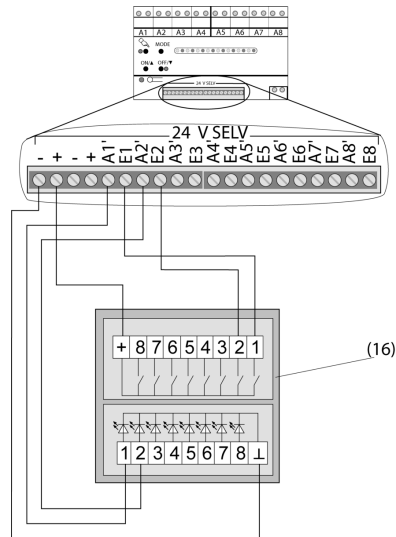
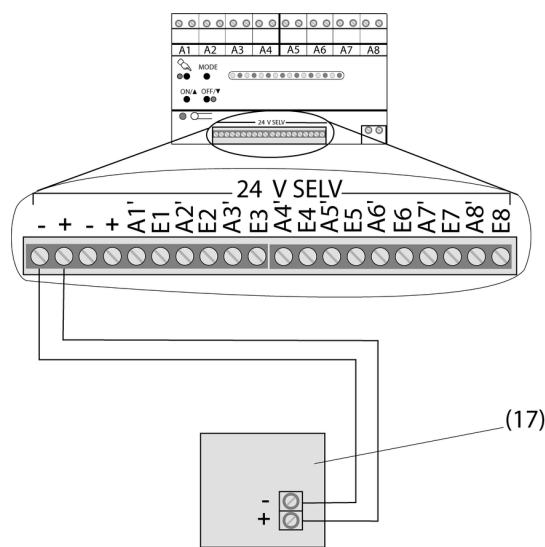
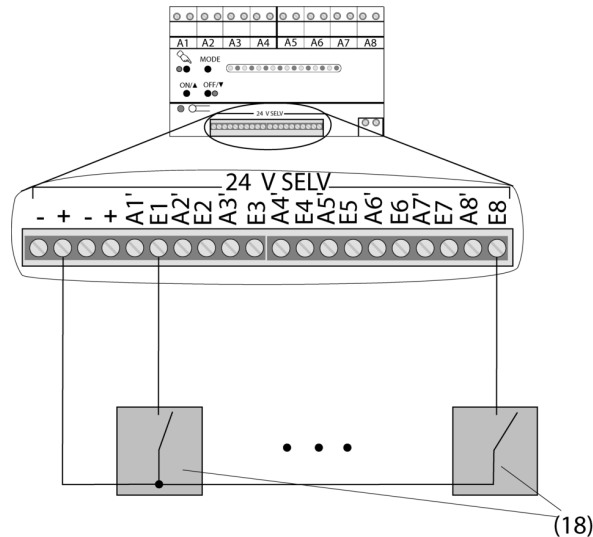

Figure 5: Wiring example with a pushbutton sensor 24 V 4-gang, push-button module 24 V 4-gang
Figure 6: Connection example for sensor module or push-button module
Figure 7: Wiring example for unlit installation button
- Connect control sections according to wiring examples (figure 5), (figure 6) or (figure 7).